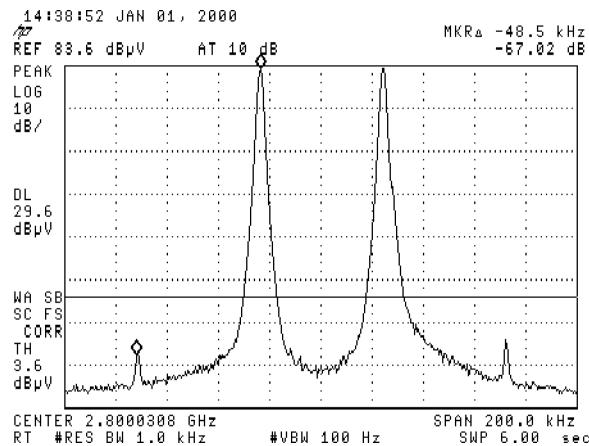

Figure 2-44. Third Order Intermodulation Distortion, HP 8593EM
44. The third-order intermodulation distortion products should appear 50 kHz below the lower frequency signal and 50 kHz above the higher frequency signal. Their amplitude should be less than the display line. See Figure 2-44.
56. Press **[MKR →]** MARKER → HIGH, More 1 of 3 More 2 of 3 MARKER Δ then set the DISPLAY LINE to a value 54 dB below the current reference level setting. The third-order intermodulation distortion products should appear 50 kHz below the lower frequency signal and 50 kHz above the higher frequency signal. Their amplitude should be less than the display line. See Figure 2-44.